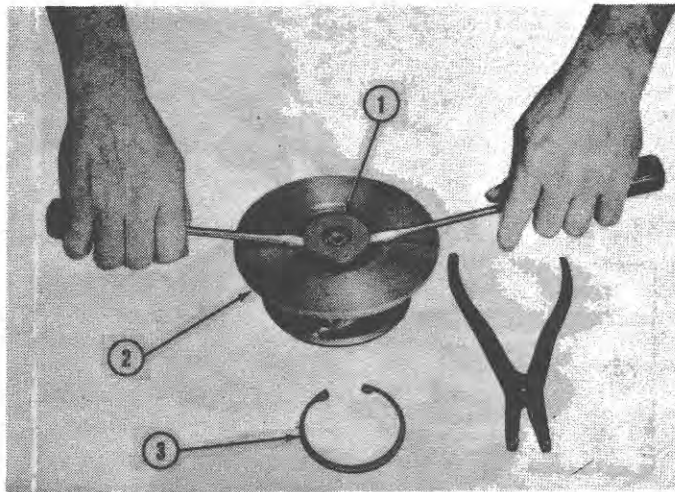

Figure 6
- Place the housing on a clean flat surface with the compressor side up as shown in Figure 6. Remove the snap ring retaining the compressor insert. Place a hand over the snap ring while removing it to prevent either loss of the ring or personal injury.
8. Using two screwdrivers, gently lift the insert from the bearing housing as shown in Figure 6. Remove and discard the O-ring from the insert.